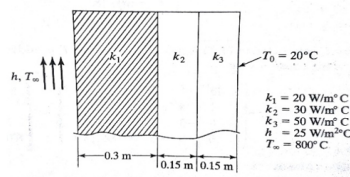

Figure 6
- (b) A composite wall consists of three materials, as shown in Figure 6. The outer temperature is $T_o = 20^\circ\text{C}$. Convection heat transfer takes place on the inner surface of the wall with $T_\alpha = 800^\circ\text{C}$ and $h = 25 \text{ W/m}^2 \cdot ^\circ\text{C}$. Determine the temperature distribution in the wall. [7M]